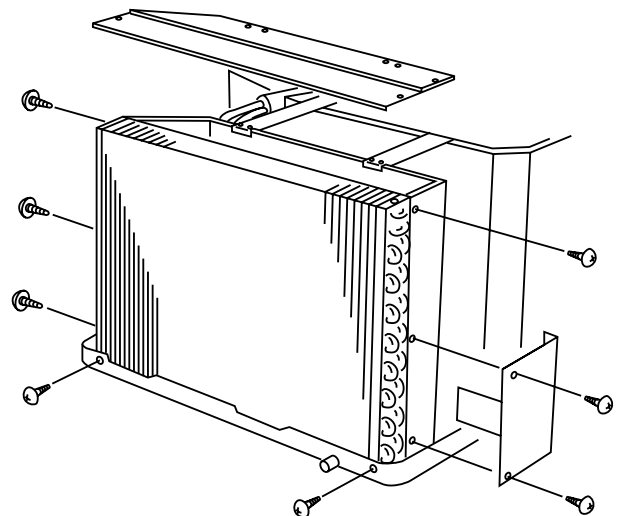

Fig. 25
- (1) Remove screws holding top plate of condenser.(Fig. 25)
- (2) Remove top plate of condenser. (Fig. 25)
- (3) Remove screws holding condenser. (Fig. 25)
- (4) Remove splash water proof plate on the right side of condenser.(Fig. 25)
- (5) Grasp lower portion of the condenser with both hands and tilt it slightly and lift it carefully from the base pan so as not to distort the copper tube.